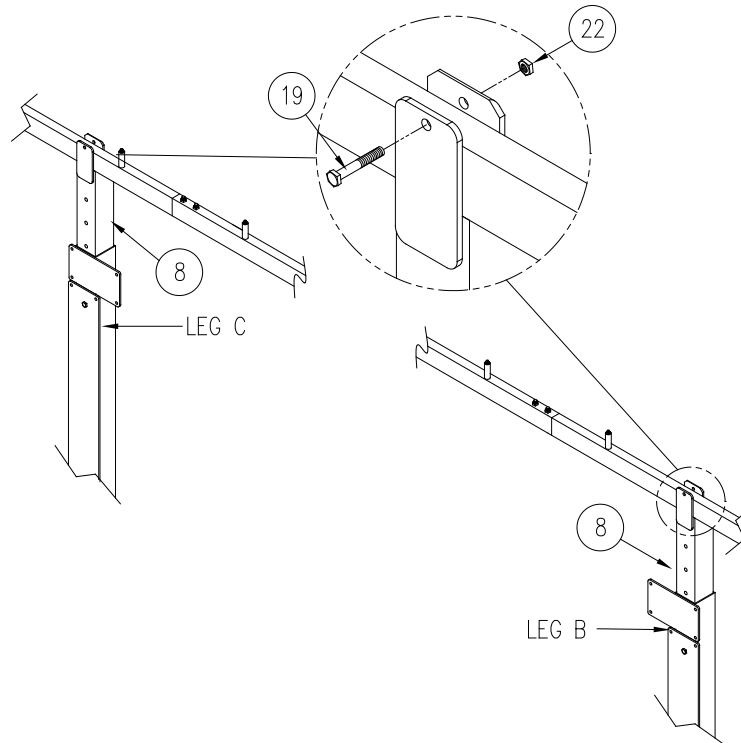

Figure 2-3.
3. Refer to **Figure 2-3**. Mount the assembled stringers to top of canopy extension legs on each side of lift. Canopy rib bushings are offset to the outside of canopy frame. Stringer connecting angles will then face inside of canopy frame. Position the stringers such that the canopy protects the entire length of the boat and fasten in place with hardware shown.